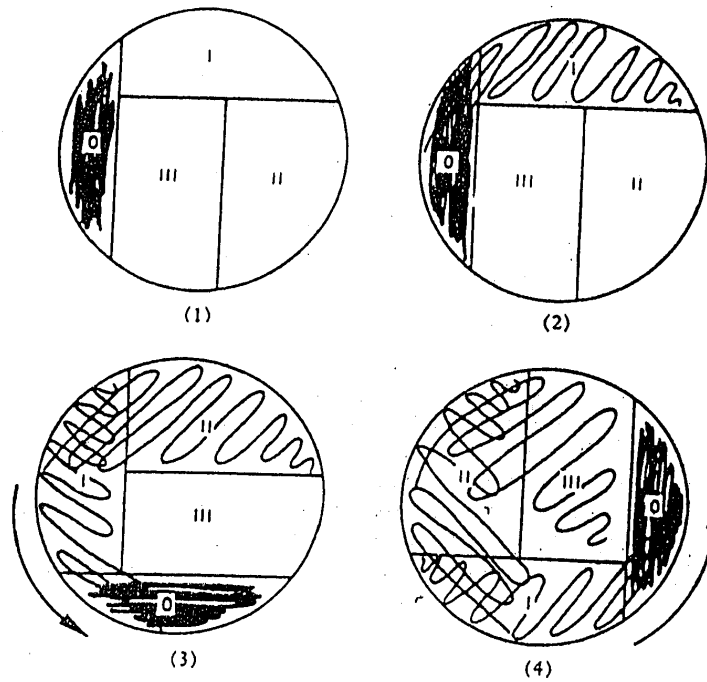

Figure 8-13: Summary of the steps used to streak for isolas
- 4- Using your inoculating loop and living bacteria, streak each sector in numerical order imitating the four steps shown in Figure 8-13.
Always keep the sector from which you are streaking on the left.* of this by rotating the plate a quarter turn counterclockwise. Note in Figure 8-13 that the arrow follows the correct position of Sector 0. Also note that Sector 0 (for the original inoculum) is small in comparison to the other sectors (I, II, and III). This allows you to use the major portion of the plate for dilution of the numbers of bacteria in the original inoculum.